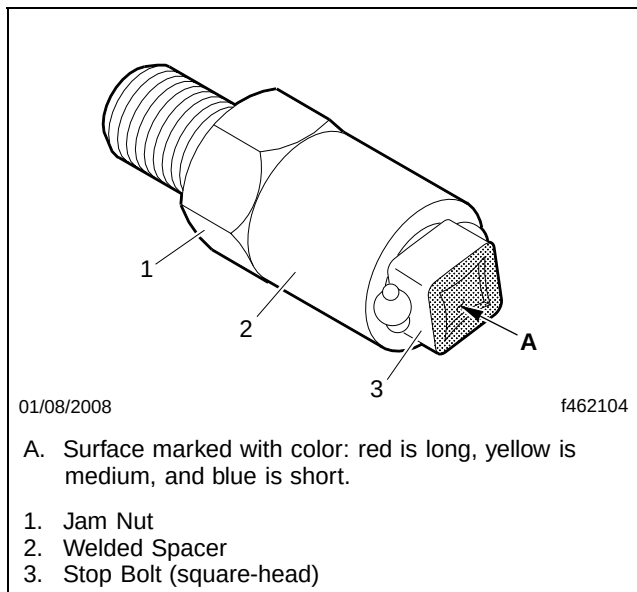

Fig. 5, New Axle Stop Bolt
26. If not already done, hand-tighten the jam nut against the welded spacer before installing each stop bolt. See **Fig. 5**.